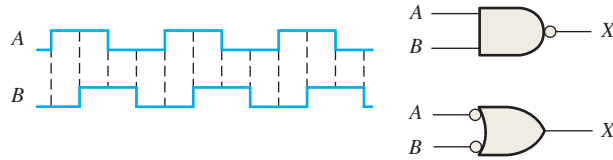

FIGURE 3–86
20. As you have learned, the two logic symbols shown in Figure 3–86 represent equivalent operations. The difference between the two is strictly from a functional viewpoint. For the NAND symbol, look for two HIGHS on the inputs to give a LOW output. For the negative-OR, look for at least one LOW on the inputs to give a HIGH on the output. Using these two functional viewpoints, show that each gate will produce the same output for the given inputs.